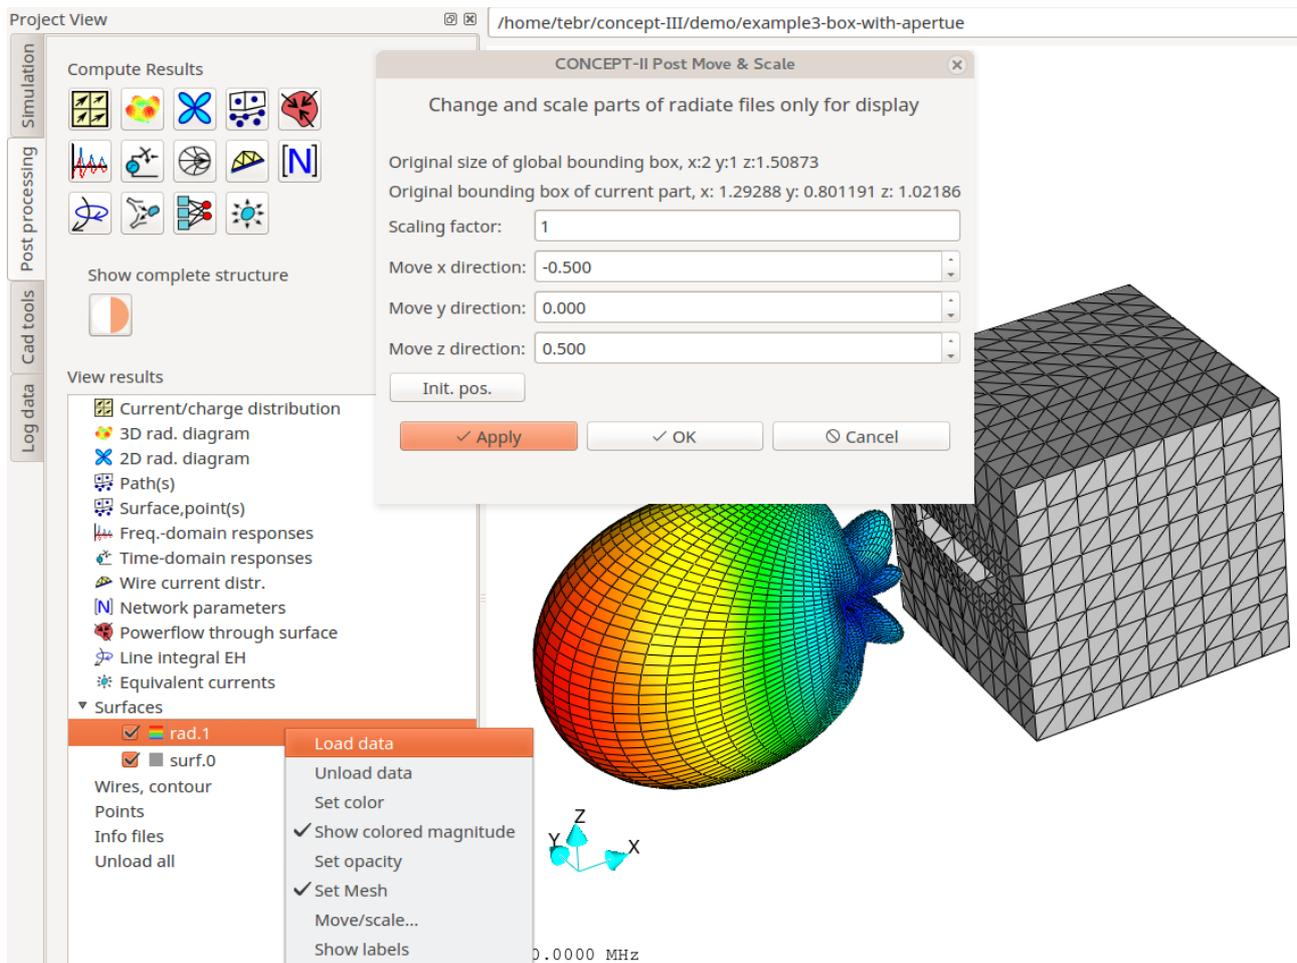

Fig 4: Application of the move-scale tool
- Right click on **rad.1** → **Move/scale...** → a sub-window opens. Enter values as shown in Fig 4 and click **Apply**. Box and cavity are well separated now.